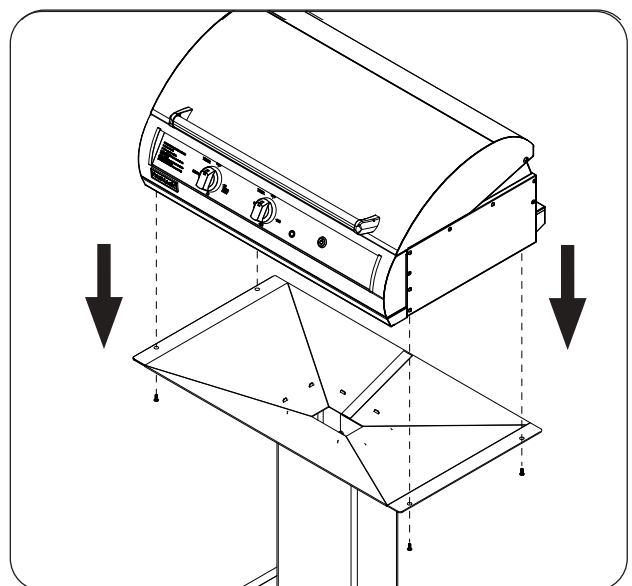

Fig. 30-3 Fasten grill to post base assembly
2. Carefully place and align the electric grill onto the top of the post assembly. Fasten the electric grill to the post base assembly using the 4 included Phillips-head screws. See Fig. 30-3.